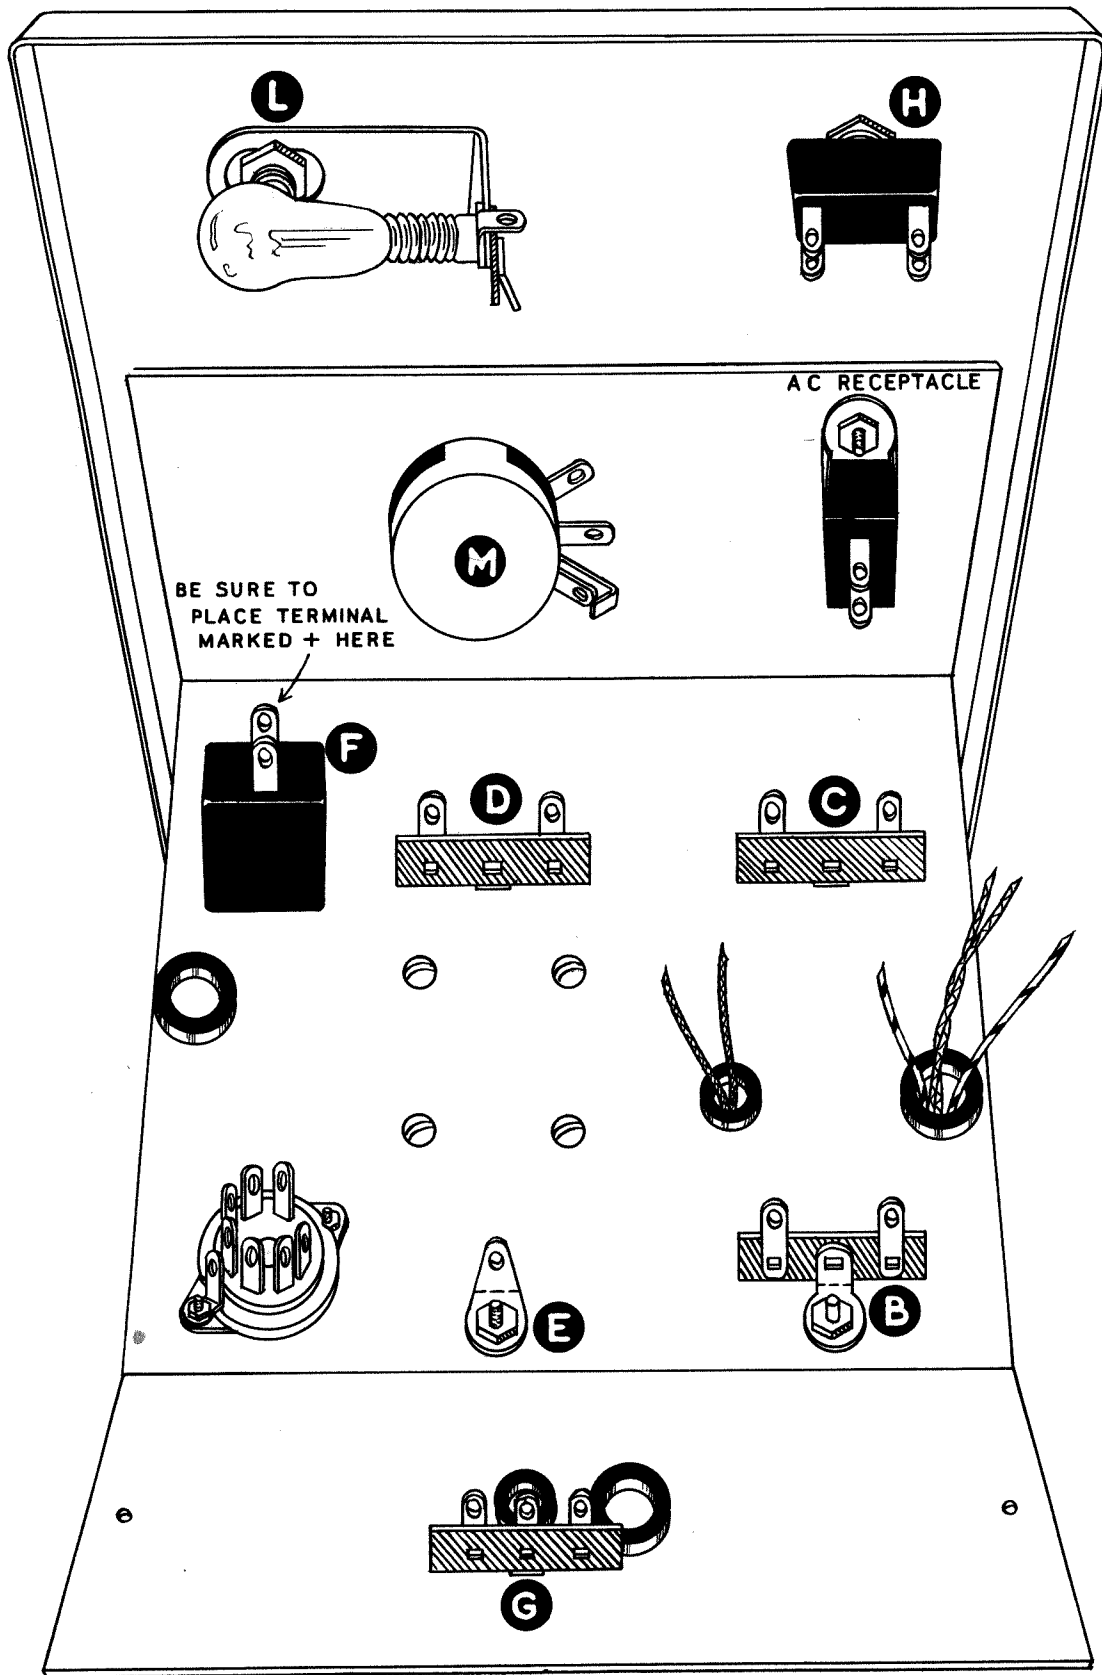

Figure 5
(N) Mount the AC receptacle in the rectangular hole using the two 6-32 x $\frac{3}{8}$ " screws. Secure the receptacle with 6-32 nuts with #6 lockwashers under the nuts. Tighten the $\frac{3}{8}$ " control nut. See Figure 5.